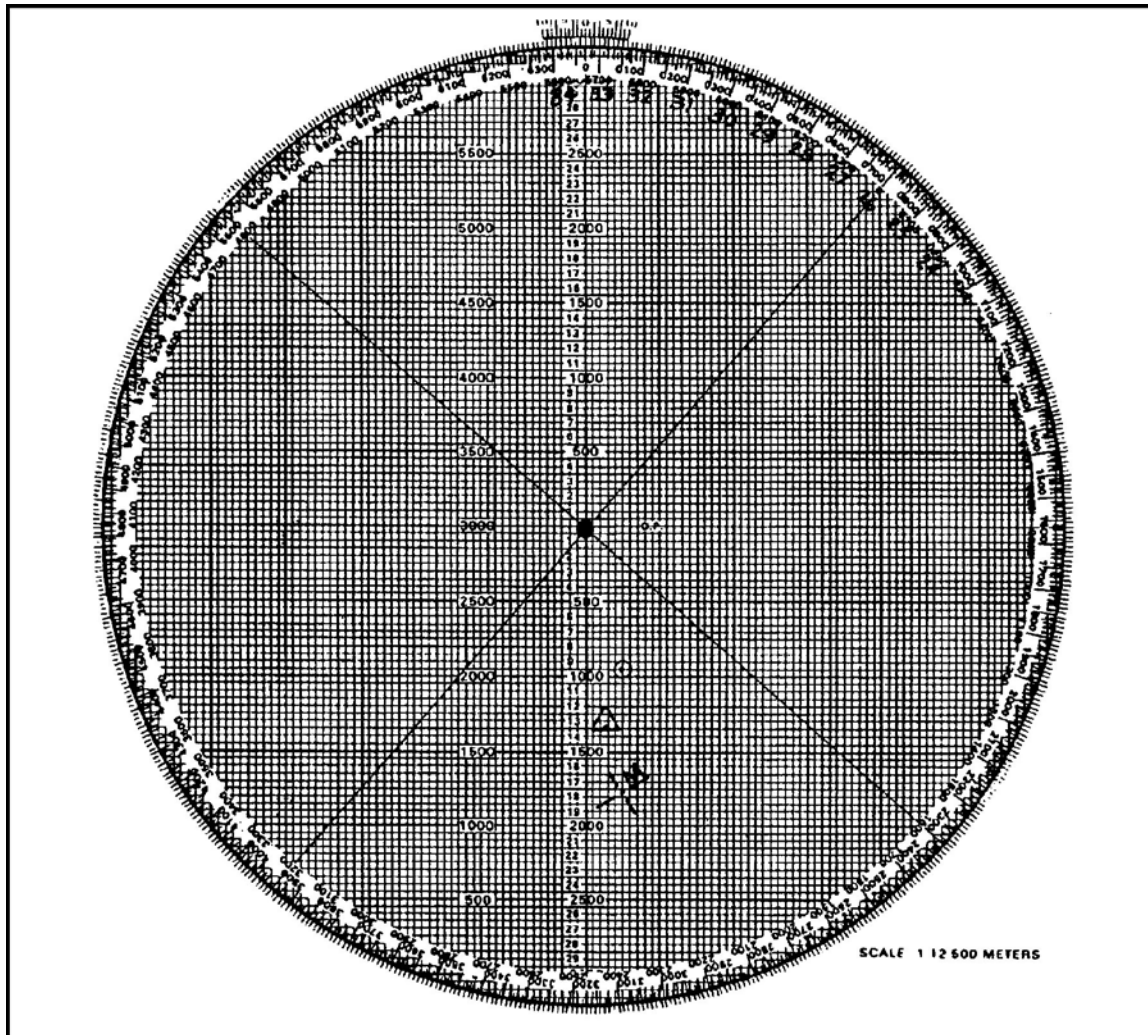

Figure 2. Target Location
- (1) Using the target location given in the call for fire, the computer plots the target location (Figure 2) and determines the range and deflection to the target.